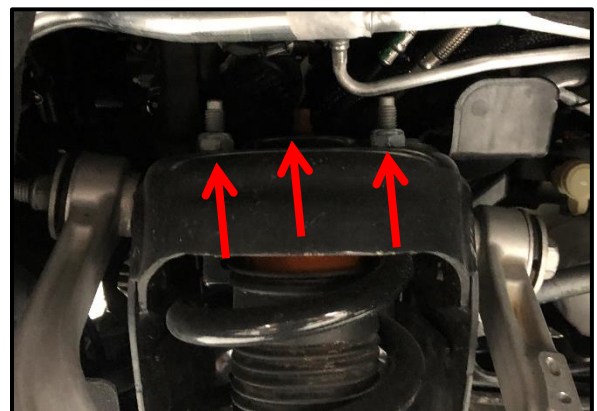

Figure 5
5. Remove (x3) upper strut nuts using a 15mm wrench (**Figure 5**).